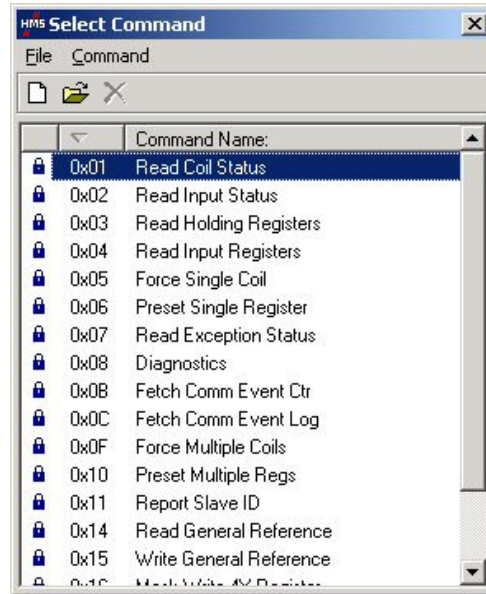

Figure 3
8. Next step is to add Modbus commands to each node on the network. Select then right-click on the node under Sub-Network then select Add Command. A table of Modbus Commands will appear as shown in Figure 3.